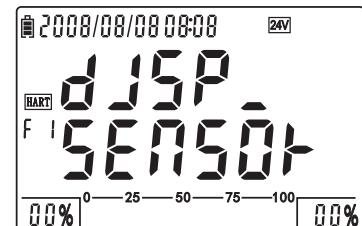

Figure 4-5-1-1: F1 entrance interface
- Switch to HART function 1 by pressing **E_{HART}**, as figure 4-5-1-1.
- Display the sensor's range by pressing , as figure 4-5-1-2.
- Press to return to figure 4-5-1-1; switch to function 2 by pressing **E_{HART}**.